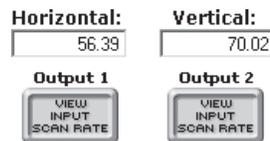

Figure 6-4 — Test pattern drop box
1. Click the test pattern field. A drop down box appears (figure 6-4).